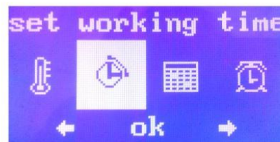

Fig 4
1. When the steam generator is on, press the  button, press  or  to select the function setting in fig 4.